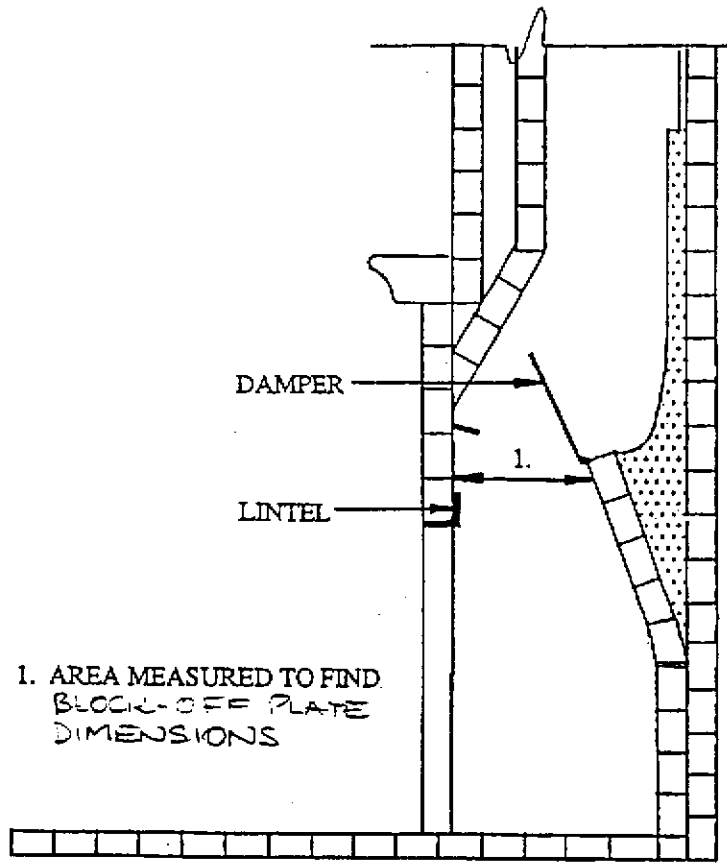

FIGURE 11.
1. Insert spline pieces (1-A) and (1-B) into the top trim piece (C) and tighten the set screws of spline 1-B with the hex key wrench provided. Do this to both sides of the top trim. (Figure 11)
2. Carefully slide the top trim (C) over the top panel, gradually working it down. Alternating sides, place the side trim pieces over the outer flange of the side panels and bring the top trim down to meet the side trim. Splines 1-A and 1-B in the top trim must mate with the corresponding slots in the side trim. Work the top trim down all the way until it seats on the top panel and the gap between the top and side trim is closed. Tighten the set screws in splines 1-B to lock the trim pieces together.